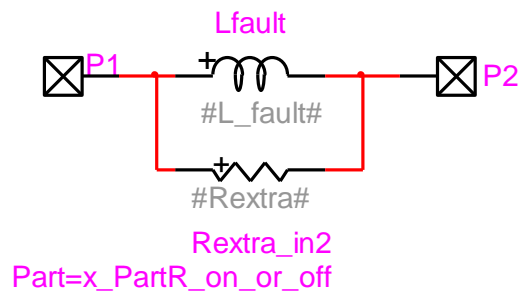

Figure 6 Subcircuit DEVF
- ❑ The resistance Rextra located in the subcircuit DEVF shown in Figure 6, is optional and can be disconnected through its part name. This is achieved by entering the name x_PartR_on_or_off into the device Part attribute. When the variable PartR_on_or_off is given the original part name of the device, the device becomes active. To disable (delete) the device, it is needed to make PartR_on_or_off equal to the string 'Exclude'.